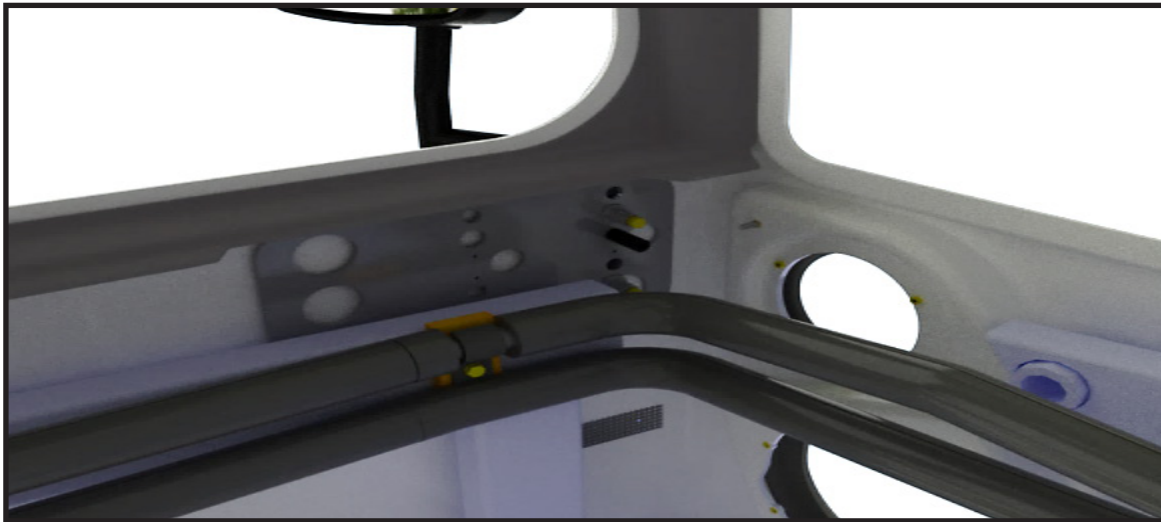

*Figure 33 - Coolant Pipe Installed*
- 1.36. Reinstall coolant pipe assembly and replace tie mounts N57807 if required (see Figure 33).